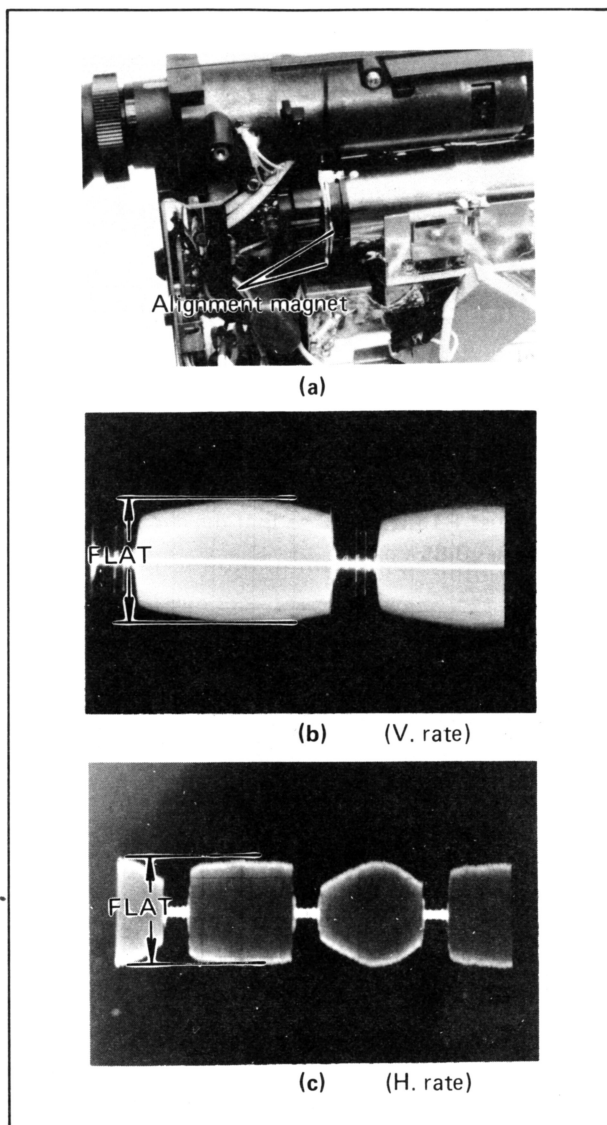

Fig. 4-13
3. Turn the alignment magnets (see Fig. 4-13) and adjust for the flattest possible H and V waveforms.